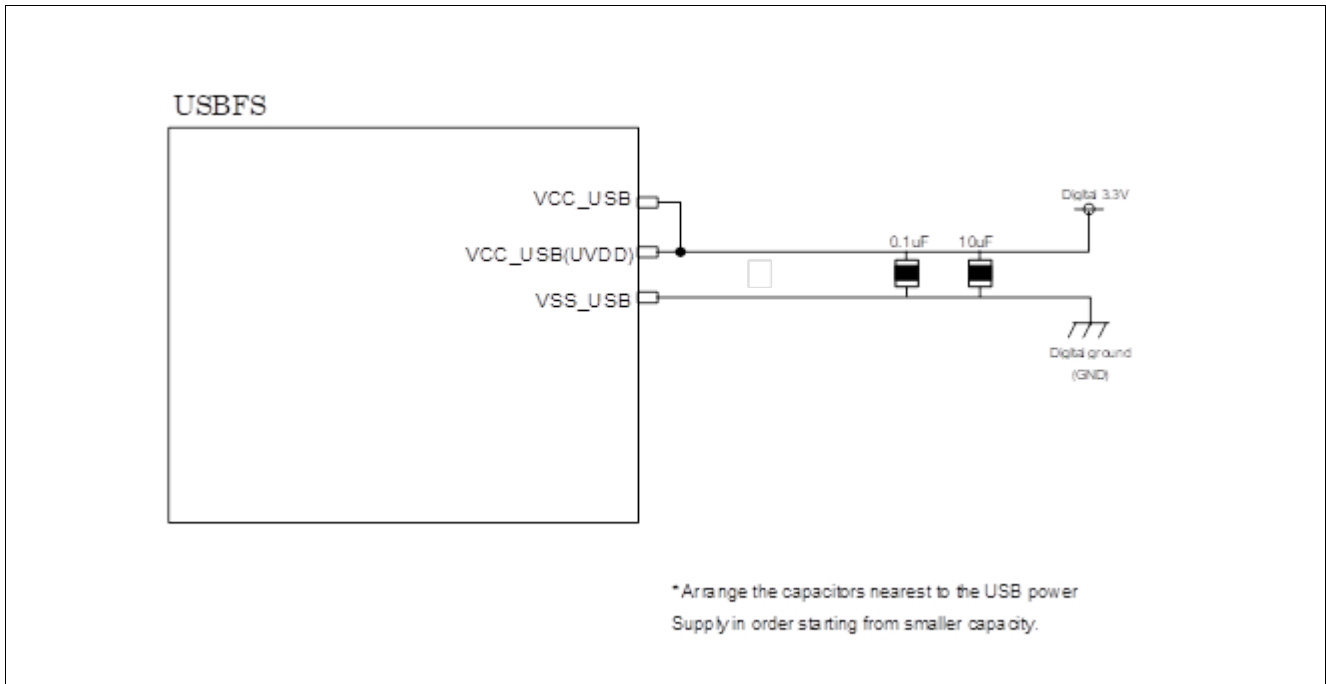

Figure 3. USBFS Power/GND connection
- As the capacitance value of the decoupling capacitor, it is recommended that the capacitances for 0.1 μF and 10 μF are allocated closest to the USB power supply pin. Figure 3 shows an example of decoupling capacitor allocation.